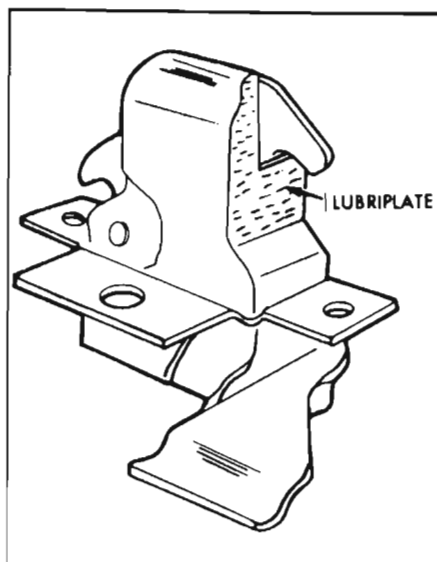

Figure 1-21—Hood Latch Lubrication
1. Hood Latch and Hinges. Apply Lubriplate to hood latch as shown in Figure 1-21. Apply engine oil to hood hinge pins.